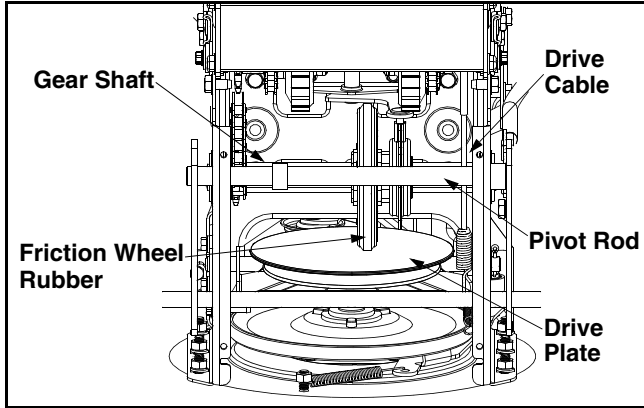

Figure 9
- With the drive control engaged, the friction wheel must contact the drive plate. See Figure 9. If adjustment is necessary:
Lubricate the gear shaft with 6-n-1 grease at least once a season or after every 25 hours of operation (available at automotive stores, or order part number 737-0170). Refer to Figure 9.
Lubricate at least once a season or after every 25 hours of operation. Remove the rear cover, lubricate any chains, sprockets, gears, bearings, shafts, and shifting mechanism at least once a season. Use engine oil or a spray lubricant. **Avoid getting oil on the friction wheel rubber and aluminum drive plate.** Refer to Figure 9.